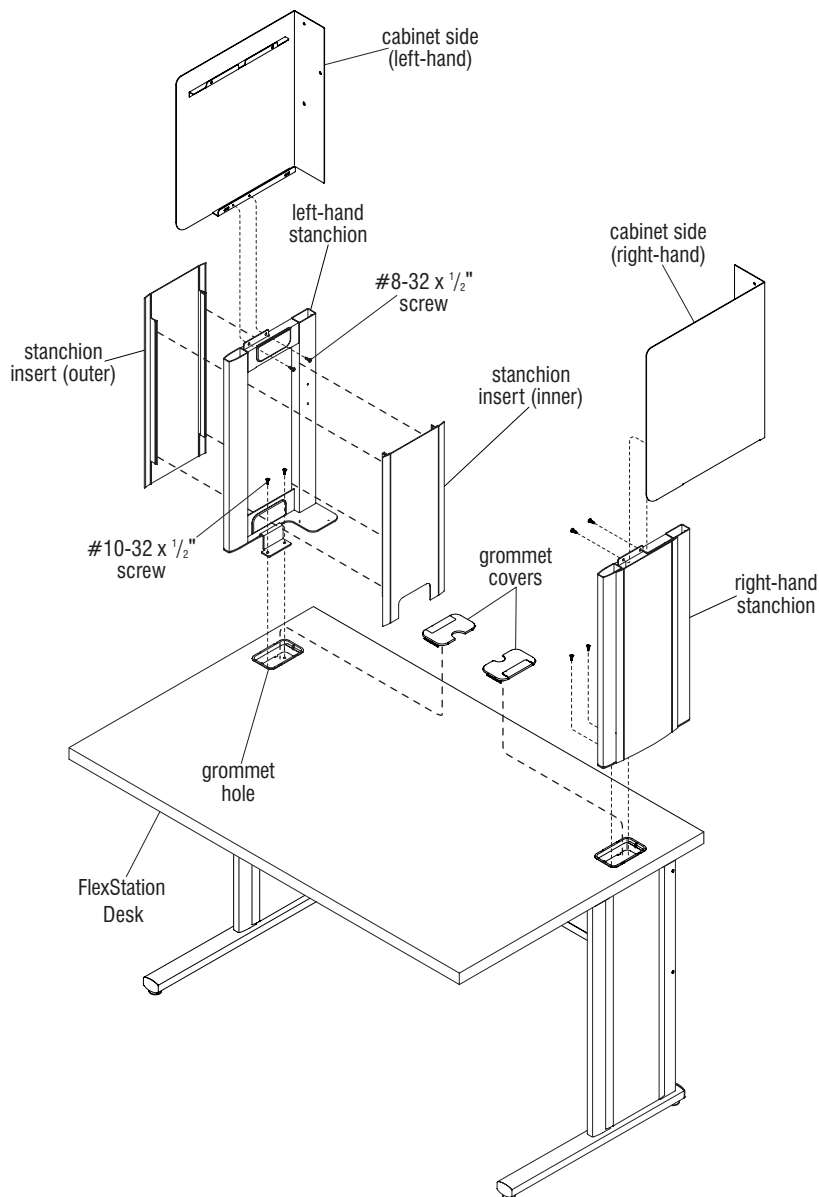

Figure 1
1. Begin by removing grommet covers from the back sides at the top of the desk where the overhead cabinet will install (Figure 1).
2. Reference Figure 1 below to identify the left- and right-hand stanchions, as well as the left- and right-hand cabinet sides. One side at a time, position the appropriate stanchion as illustrated such that the lower mounting bracket of the stanchion inserts into the grommet hole. Align the mounting holes in the bracket with the holes in the top of the leg and secure using two #10-32 x 1/2" screws (Figure 1).
3. Orient the right- and left-hand cabinet sides as illustrated, then nest them into the tops of the stanchions and align the mounting holes. Secure from the inside using two #8-32 x 1/2" screws at each stanchion side (Figure 1).